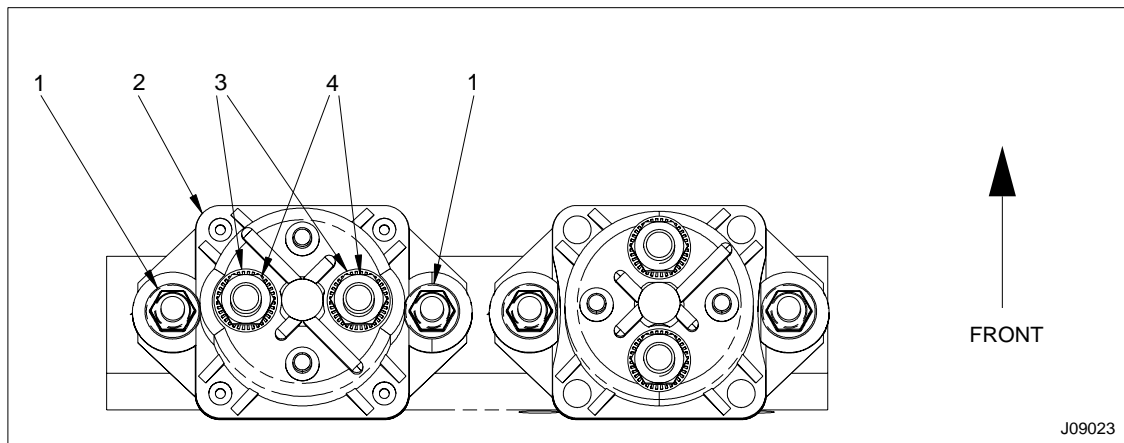

Figure 498 Intake air heater relay mounting connections
7. Loosen and remove the two nuts 1 (Figure 498) securing the intake air heater relay to the support bracket.
8. Remove intake air heater relay 2 (Figure 498) from the support bracket.